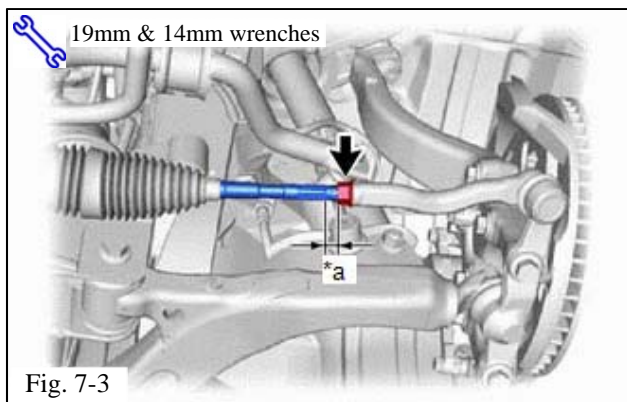

Fig. 7-3
- (1) Confirm the steering wheel is locked in the straight ahead position.
- (2) Remove the outer steering rack boot clips from the boots.
- (3) Loosen the tie rod lock nuts (Fig. 7-3).
- (4) Turn the right and left steering rack ends by an equal amount to adjust the toe-in.
- (5) Make sure that the thread length of the right and left steering rack ends are the same (\*a) (Fig. 7-3).
- (6) Tighten the tie rod lock nuts (Fig. 7-3).
- (7) Replace the steering rack boots on the seats and install the steering rack boot clips.